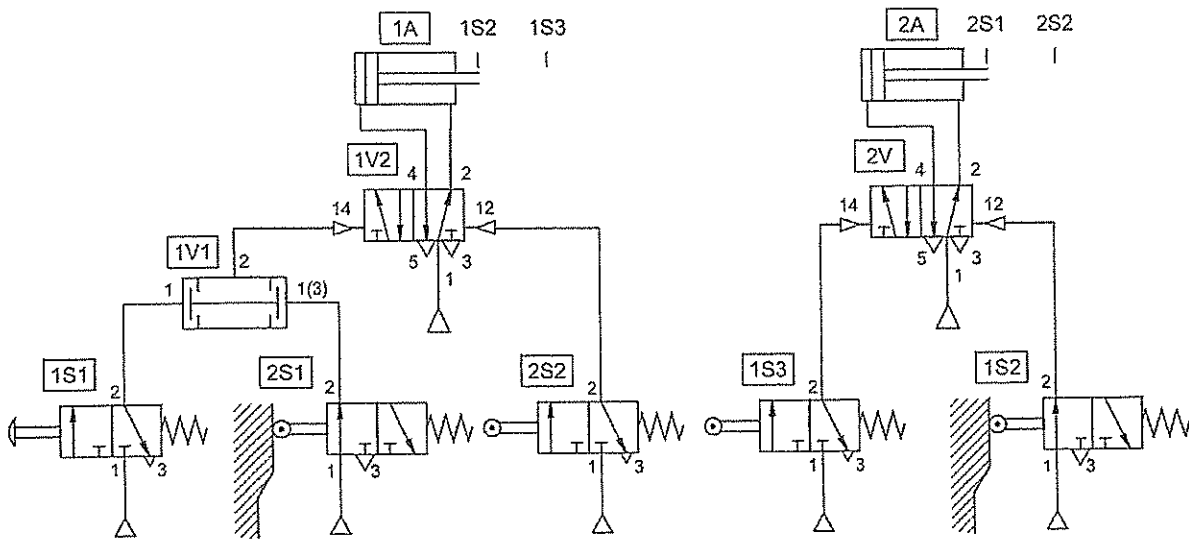

Figure Q3(d)(ii) (source: Pneumatics Basic Level, Festo)
d. The Figure Q3(d)(i) and Q3(d)(ii) above is application of two cylinders are used to transfer parts from a magazine onto a chute. Give a step-by-step explanation of how this application works.